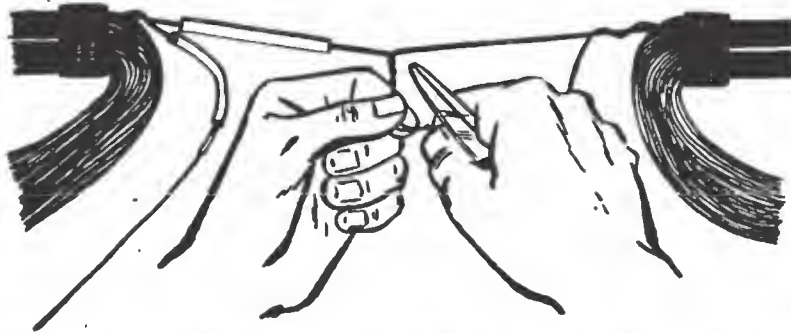

Figure 6-18.—Operation 12: Completion of twisting of wires together.
12. Continue crank-handling until the twist is forced beyond the thumb and forefinger of the left hand as shown in figure 6-18. After you acquire some skill you can make the twist by giving the crank three turns with the wires held tightly in the left hand followed by three turns with the wires held loosely.